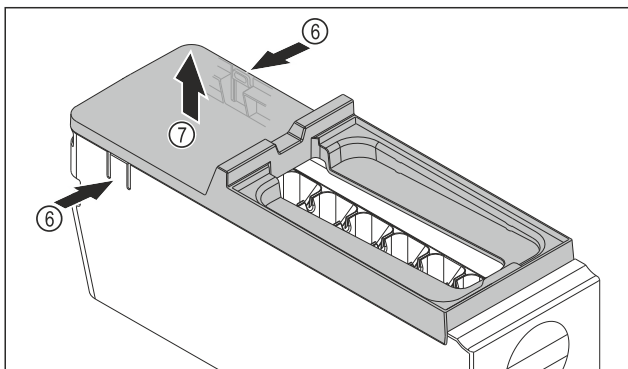

Fig. 145
- ▶ Removing the EasyTwist-Ice body cover: Push the tabs Fig. 145 (6) on both sides of the EasyTwist-Ice body with one hand.
- ▶ Use the other hand to remove the cover Fig. 145 (7) upwards.